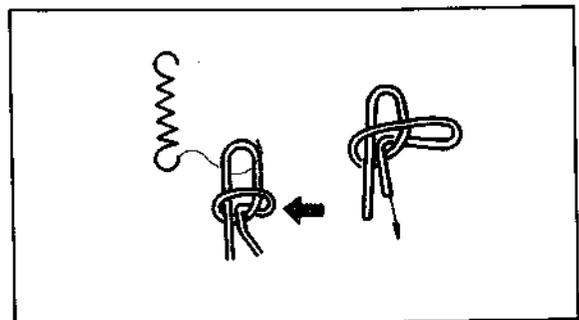

Fig. 2-3. Tying square knot at the tension spring
4. Tie the end of the cord to a spring as shown in Fig. 2-3.